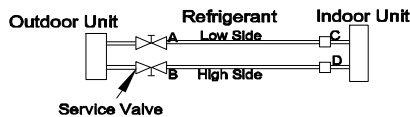

Fig. 15 — Service Valve
1. Completely tighten flare nuts A, B, C, D, connect the manifold gage charge hose to a charge port of the low side service valve (see Fig. 15).